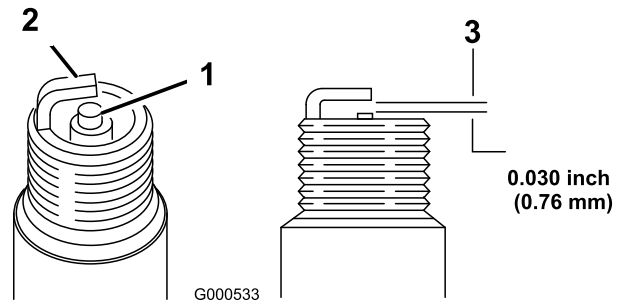

Figure 30
11. Set the gap on the plug to 0.030 inch (0.76 mm) as shown in Figure 30.